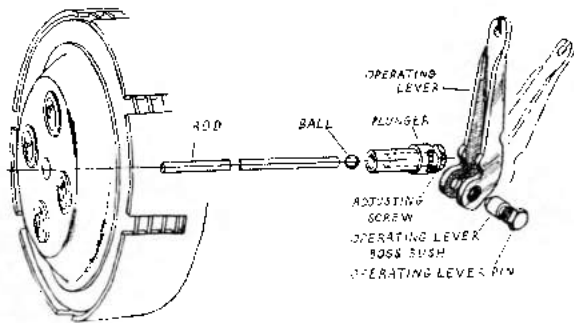

Fig. 11. Clutch Cable and Rod Adjustment.
1. CLUTCH ADJUSTMENT (Fig. 11)
3. REMOVAL OF THE CLUTCH BODY AND SPROCKET (See Fig 11)